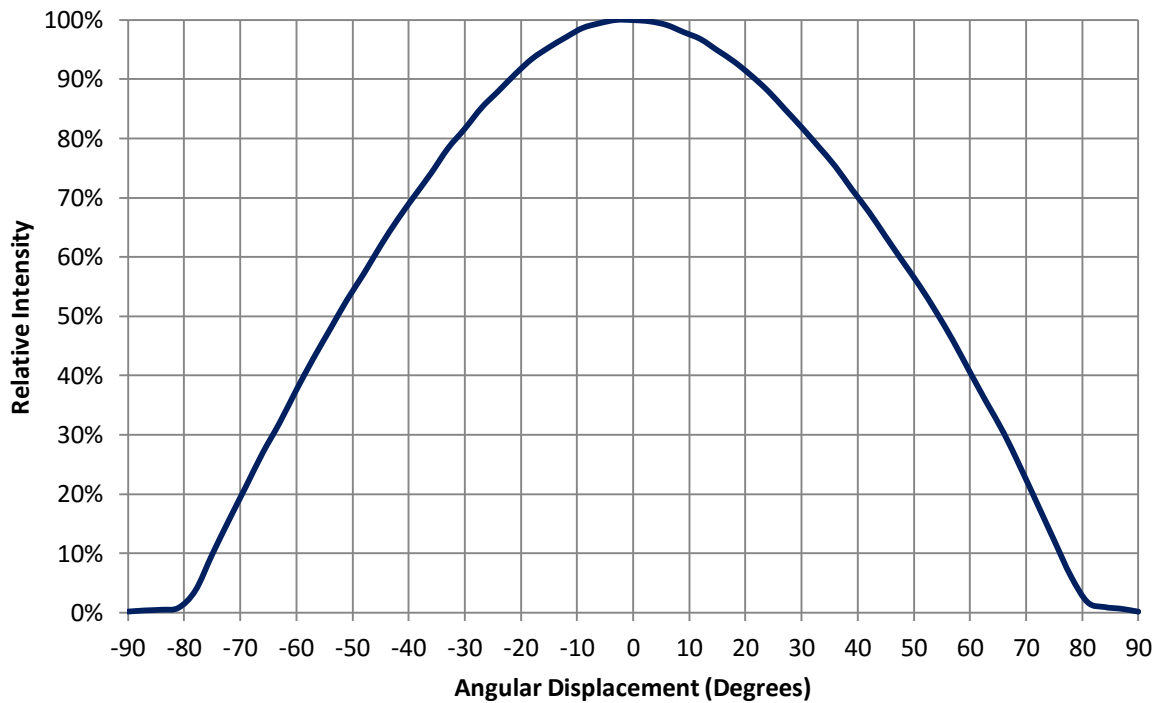

Figure 4: Typical representative spatial radiation pattern
- Solder conditions per JEDEC 020D. See Reflow Soldering Profile Figure 4.